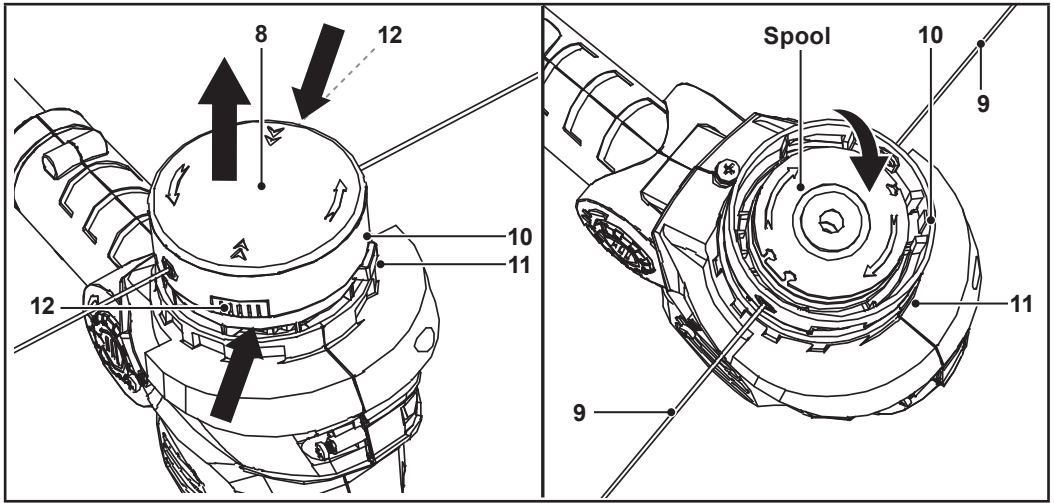

Fig. 9
**NOTE:** The spool must be replaced regularly. Replace the spool when the cutting line (9) cannot be extended anymore.
1. Unplug the mains plug (5).
2. Open the spool housing (10): Press simultaneously both spool cap releases (12) of the spool cap (8). You can use a tool (e.g. a screwdriver) to lift the spool cap.
3. Remove the spool cap (8) (Fig. 9).
5. Guide the ends of the cutting line (9) of the new spool out of the slots of the spool housing (10). Pull approx. 20 cm of the cutting line outside the spool housing.
6. Insert the new spool into the spool housing (10) (Fig. 9).
7. Put the spool cap (8) back onto the spool housing (10). Make sure that the spool cap releases (12) engage into the recesses on the spool housing.